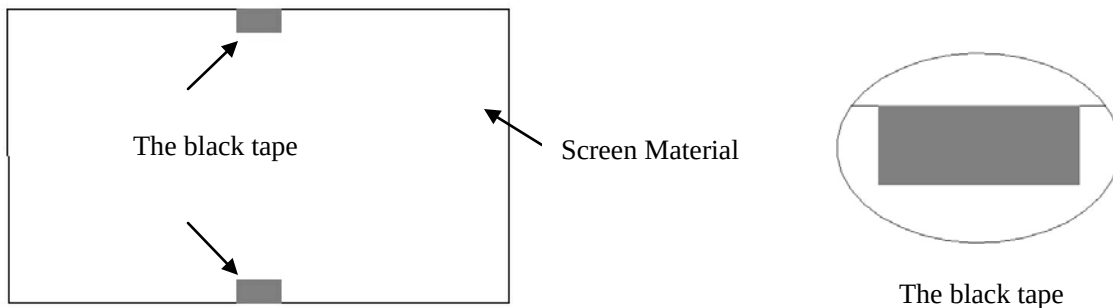

Figure 1
Before handling the **Black Grid** material, put on the supplied pair of white gloves to avoid leaving fingerprint marks, dust or hand oil on the material's surface (Figure 1). The **Black Grid** material is very delicate and should be handled with extreme care. Do not allow the material to fold or bend. Failure to follow instructions will result in permanent damage to the screen material, which is not covered by warranty.
- a. As an option, Black Tape is supplied to cover any possible gaps between the pieces of the bezel trim. Align the tape with the edge of the screen, as shown in Figure 1. Once properly aligned, apply the black tape to the center of the top and bottom of the screen material.